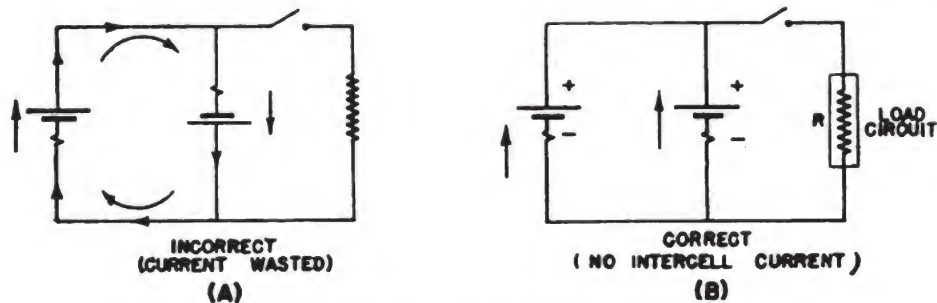

Figure 70.—Electrical polarity of parallel cell combinations.
If you try to connect cells in parallel but don't quite succeed, you may have the result you see in (A) of figure 70. The voltage of both cells acts
in both cells, and quickly wreck both of them. In (B) of figure 70, you have the right connection.